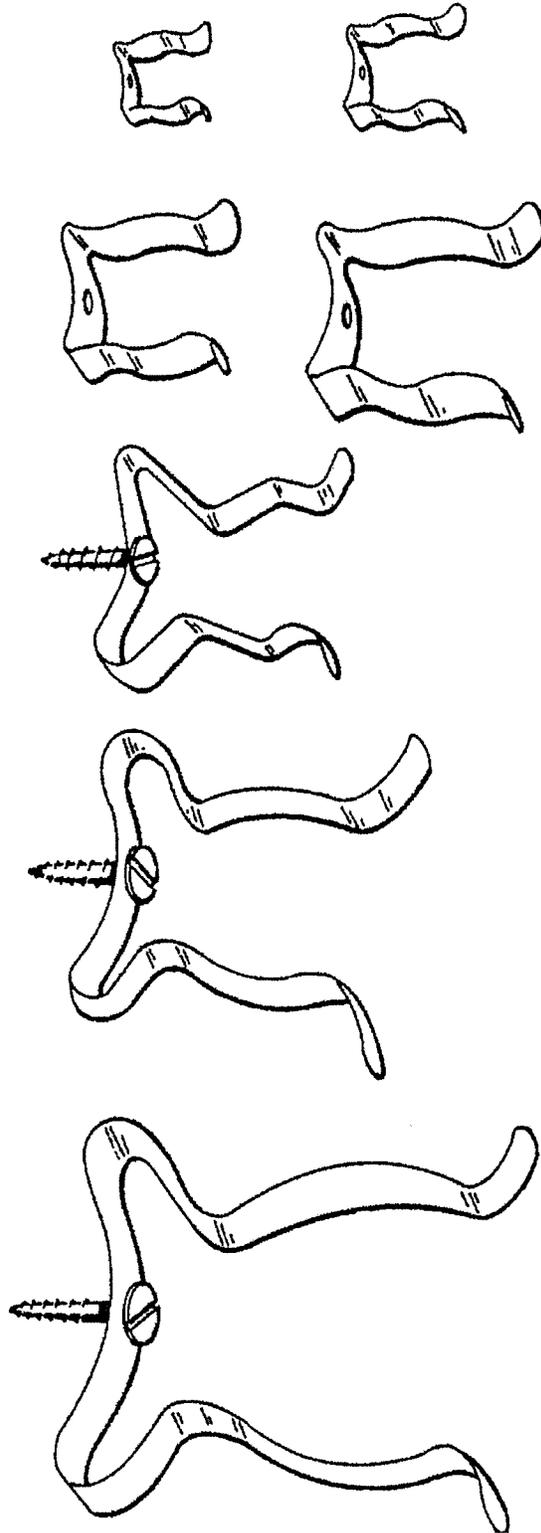

Figure 5-16. Clips, Spring Tension
- p. Clips, Spring Tension (Figure 5-16) are stock items with their NSN's listed in Section 3. They are used in various ways throughout the system.